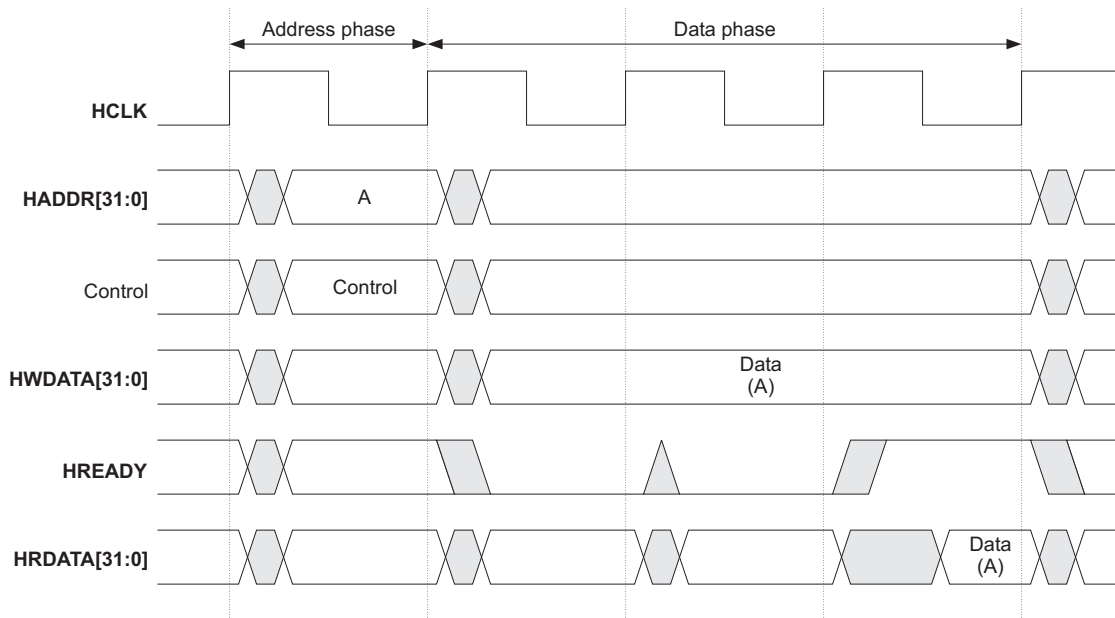

Figure 11: Transfer with Wait States
- Transfer with wait states (Figure 11 on page 39)